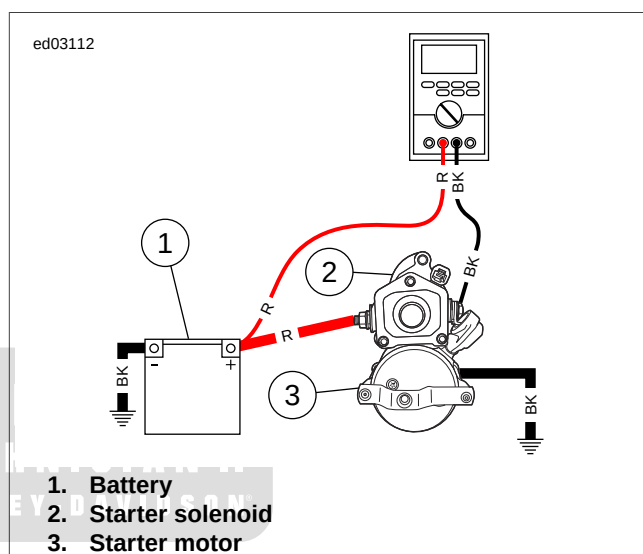

Figure 1-41. To Starter Solenoid Starter Terminal
2. See Figure 1-41. Move the black meter lead to the starter side post of the starter solenoid. Crank the starter.